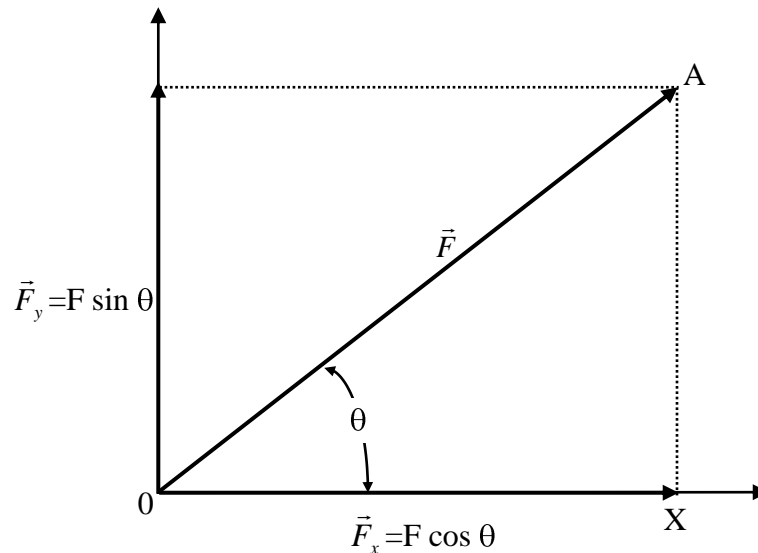

Figure 2.6: Vector Components
- Why use components to specify vectors? One reason is that using components makes it easy to add vectors mathematically. Fig. 2.6 shows the x and y components of a vector of length  $\vec{F}$ , at an angle  $\theta$  with the x-axis. Since the components are at right angles to each other, the parallelogram used to determine their resultant is a rectangle. Using right triangle AOX, the components of  $\vec{F}$  are easily calculated: the x-component equals  $F \cos \theta$ ; the y-component equals  $F \sin \theta$ . If you have many vectors to add, simply determine the x and y components for each vector. Add all the x-components together and add all the y-components for the resultant.